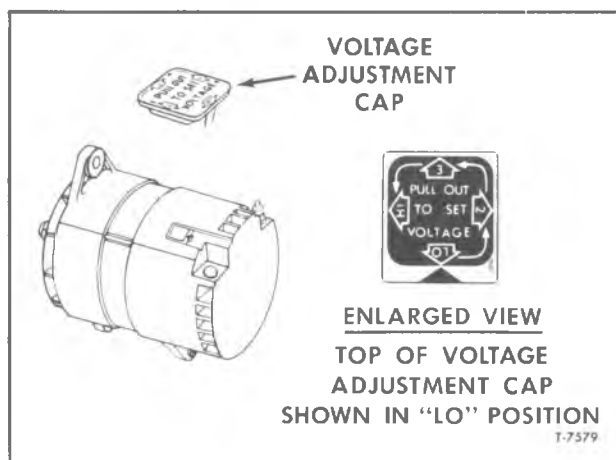

Figure 10—Voltage Adjustment Cap
this section, generator is not defective. Remove voltage adjustment cap from generator and raise the setting by rotating in increments of  $90^{\circ}$ , and then insert the cap in the connector body. As illustrated in figure 10, the cap is set for low voltage. With position 2 aligned with arrow, the setting is increased to medium low, position 3 is medium high, and position "HI" is the highest regulator setting. After adjusting the setting, check for an improved battery condition after a service period of reasonable length.
4. If ampere output is not within 10 per cent of limits listed in "Specifications," increase generator speed as required to obtain maximum voltage reading. Note position of voltage adjustment cap (fig. 10).